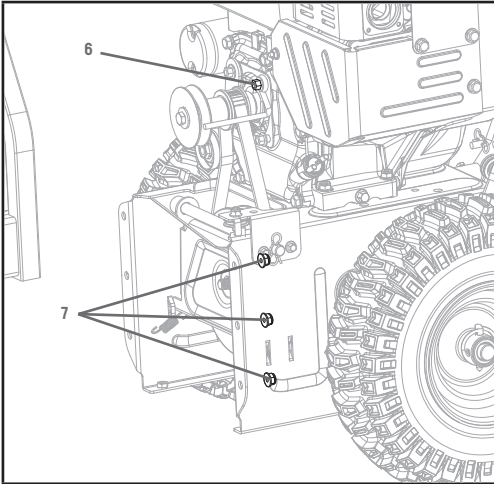

Figure 23
5. Loosen the belt lever 20 mm bolt (6) (Fig. 23).
6. Unscrew six M8 nuts to separate the auger housing from the base (7) (Fig. 23).